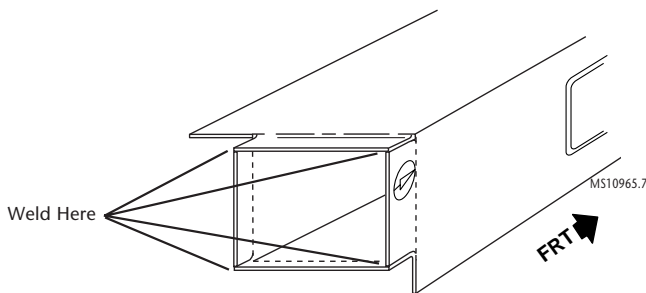

Figure 5-6:
- 4 Step the top, bottom and the side tabs inward to allow the service part to fit inside the original rail. Weld the tabs together along the corners of the service part (figure 5-6).